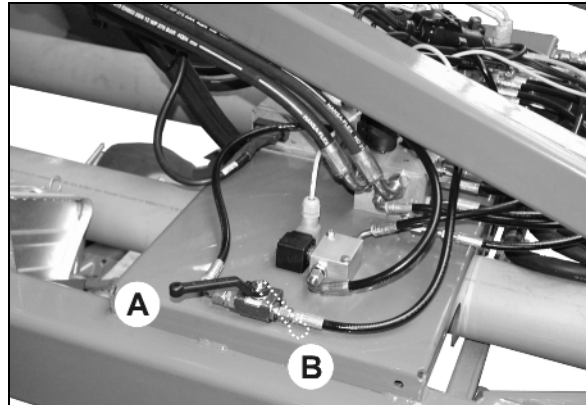

Fig. 115
- Only with **AMATRON 3**: By changing over the lever (Fig. 115) the pressure on the wings can be switched off.